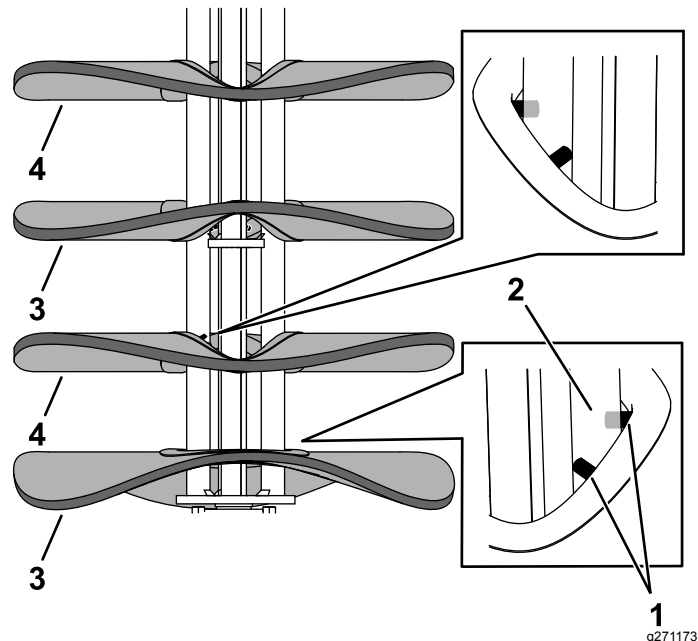

Figure 14
2. Stand the broom core on end. Starting with a polypropylene brush, install new brushes, ensuring the prongs straddle the rods of the core (Figure 14). Alternate between polypropylene and wire brushes, with each consecutive brush 180° apart.